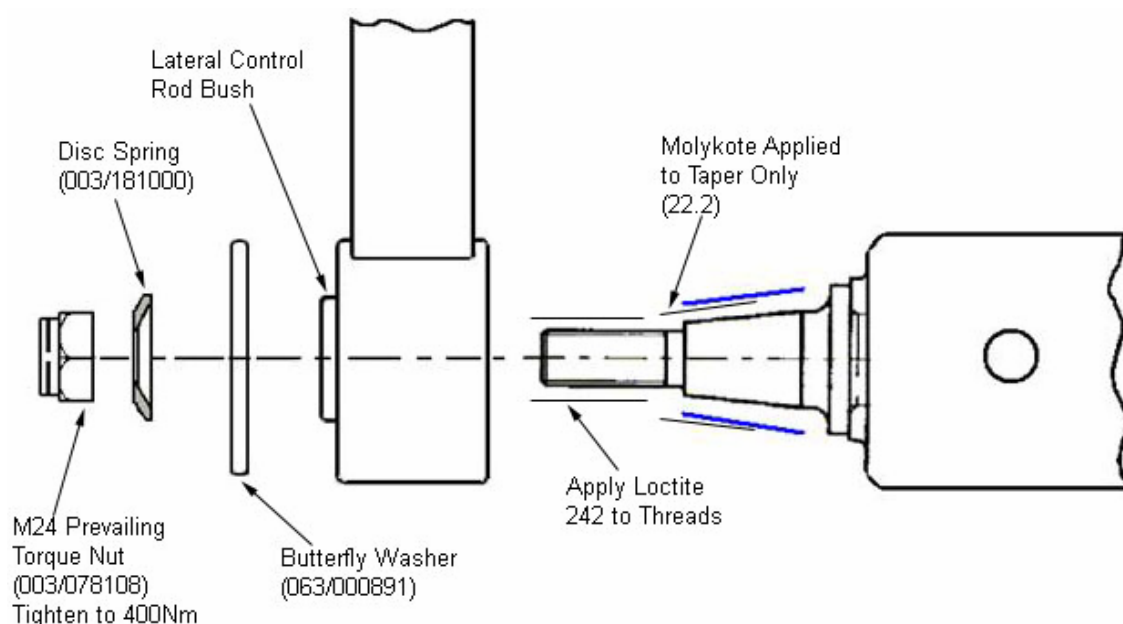

Figure 26.1: Exploded View of Assembly of LCR onto Frame Spigot
26.3 Fit the butterfly washer and disc spring to each of the four bogie LCR spigots. The disc spring shall be fitted with the centre portion of the cone abutting the nut clamping face (see Figure 26.1).